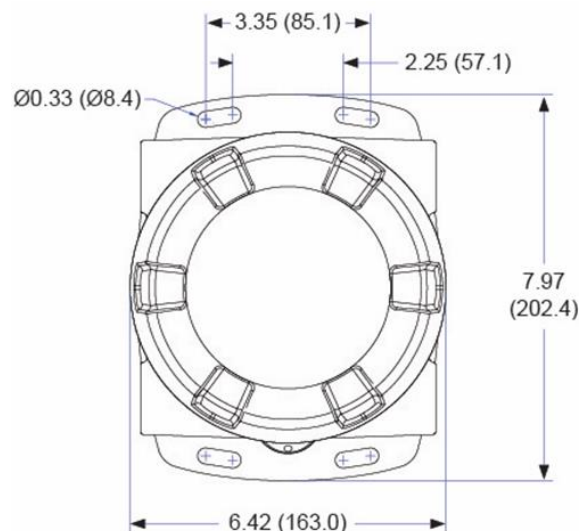
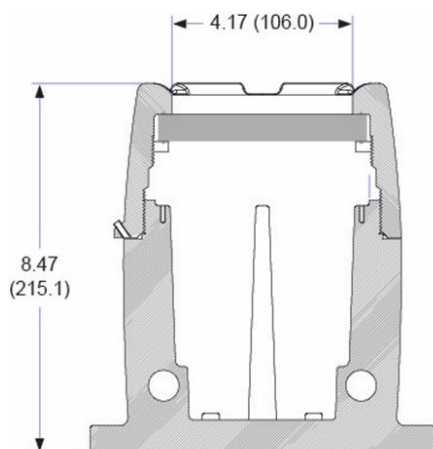

Figure 1. Enclosure Dimensions – Front View
Figure 2. Enclosure Dimensions – Side Cross Section View
The ProtEX-MAX has four slotted mounting flanges that may be used for pipe mounting or wall mounting. Refer to *Figure 1* and *Figure 2* below.
- Prepare a section of wall approximately 7.0" x 8.5" (178 mm x 216 mm) for meter mounting by marking with a pencil the mounting holes (shown in *Figure 1*) on the wall.
- Select the appropriate mounting screws for the mounting surface to be used. The mounting holes diameter is shown on *Figure 1*.